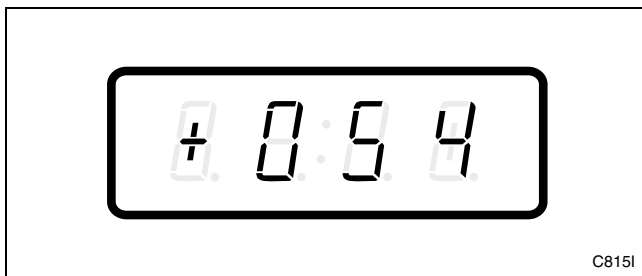

Figure 190
3. Press the LOW TEMP (+) or the NO HEAT (-) keypad to scroll through the programmable options until “+054” appears in the VFD. Refer to *Figure 190*.